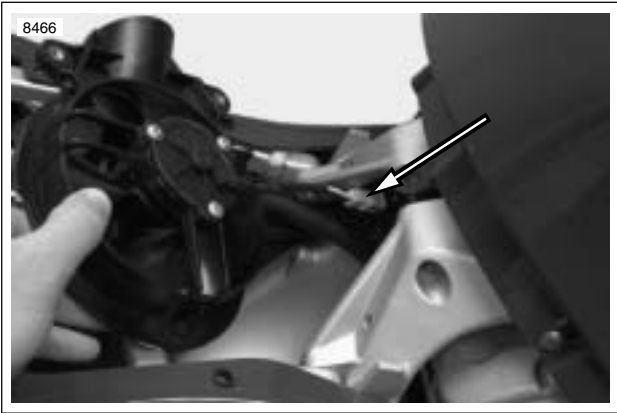

Figure 4-83. Cooling Fan Connector [97]
6. See Figure 4-83. Disconnect cooling fan connector [97].
1. See Figure 4-83. Connect cooling fan connector [97].